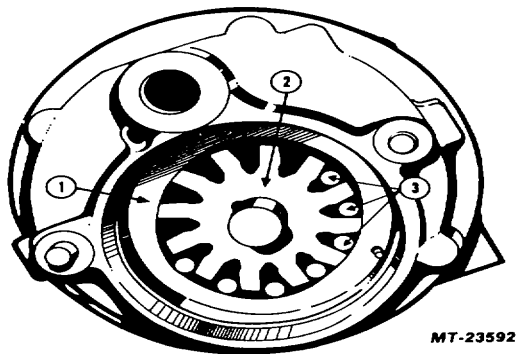

Fig. 34 Inserting Rolls
8. Insert rolls into carrier and lubricate carrier face and shaft with same type of lubricant as used in pump, Figure 34.